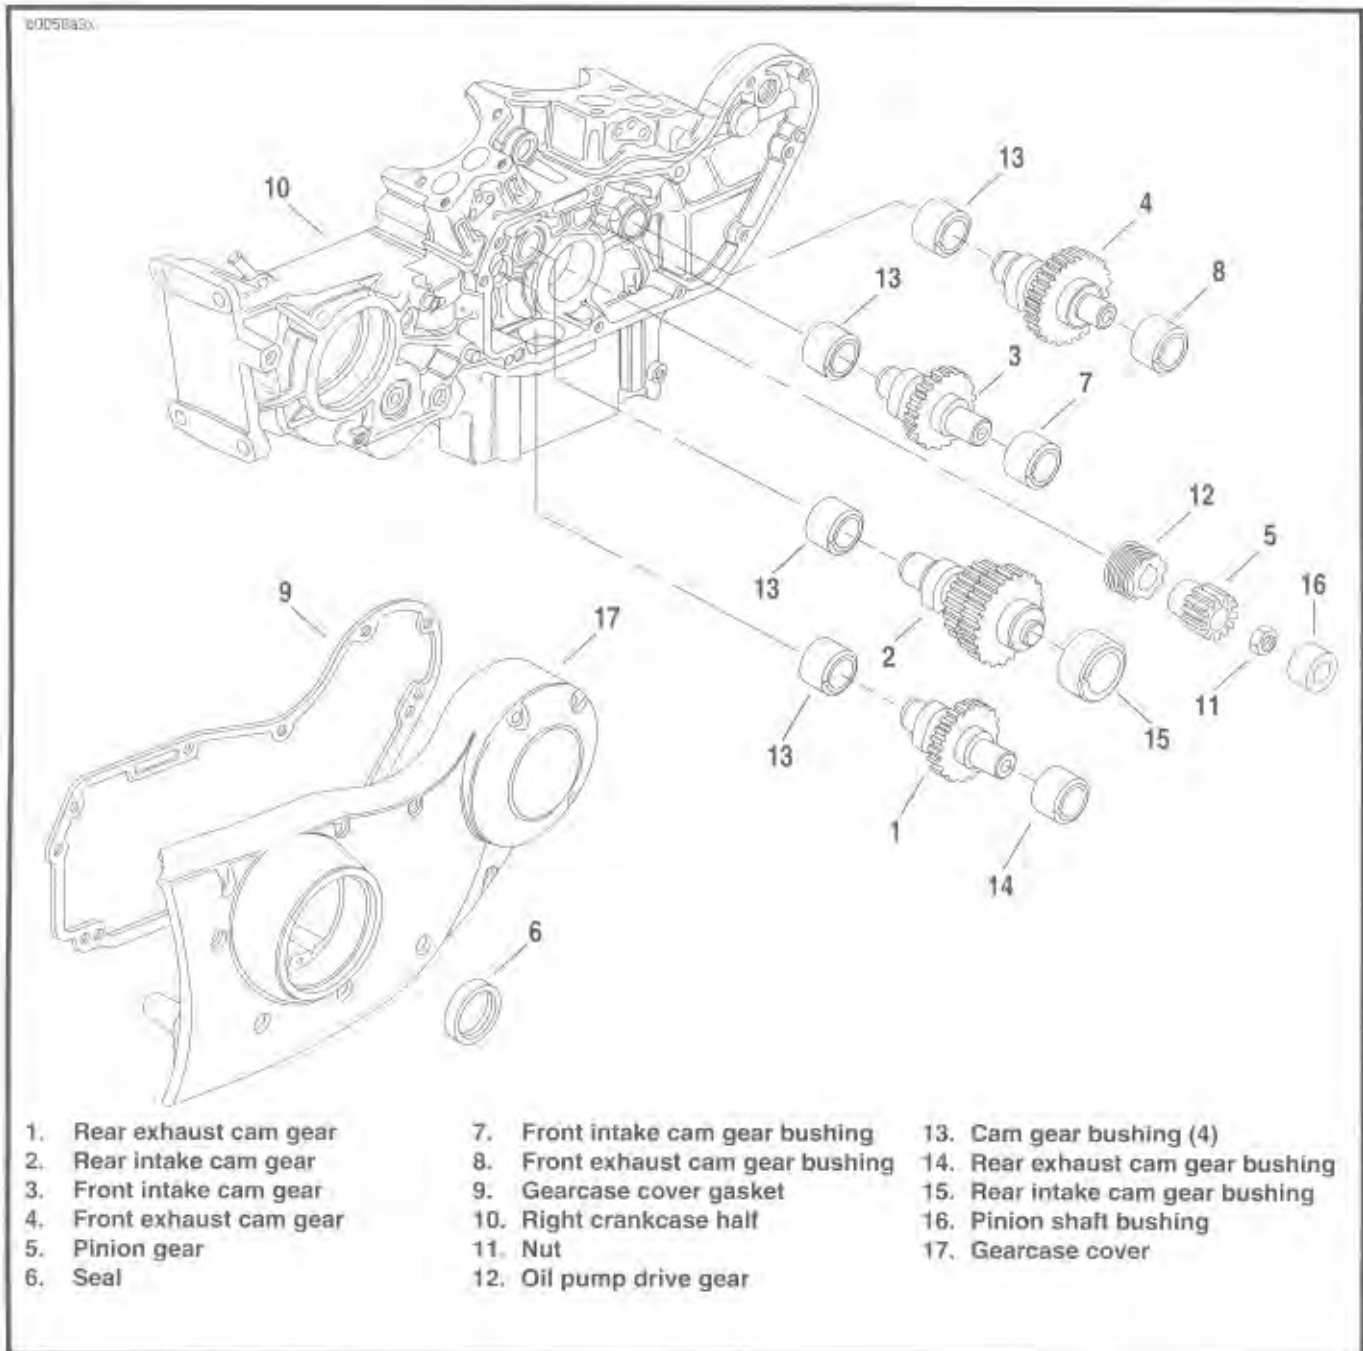

Figure 3-59. Gearcase and Valve Train Components
(Figure 3-59)
- See Figure 3-59. Bushings (7, 8, 13, 14, 15, and 16) are press fit in gearcase cover (17) and crankcase. Inspect each bushing against its corresponding cam gear shaft or pinion gear shaft.
- See Figure 3-59. Using an arbor press, install each bushing (7, 8, and 14) in its gearcase cover (17) bore so that bushing shoulder contacts cover boss. There is no need to orient these particular bushings in any specific position of rotation within gearcase cover bores.
- See Figure 3-59. Rear intake cam gear bushing (15) must be installed in its gearcase cover (17) bore using an arbor press. You will need to orient the bushing in a specific position of rotation within the cover bore, and will need to drill a lubrication hole in the bushing, according to the following procedures.
1. See Figure 3-59. Using an arbor press, install pinion shaft bushing (16) in its gearcase cover (17) so that bushing is flush with cover boss. There is no need to orient this particular bushing in any specific position of rotation within the gearcase cover bore.
1. See Figure 3-59. Bushings (7, 8, and 14) to be reamed must be installed in gearcase cover (17) as described in BUSHING INSTALLATION. Attach gearcase cover to right crankcase half (10), which has been disassembled from left crankcase half, securing with a minimum of three mounting screws.
2. Insert a standard 11/16-in. diameter reamer through the previously reamed cam gear bushing (13) in right crankcase half, which is in line with one of the bushings to be reamed in gearcase cover.